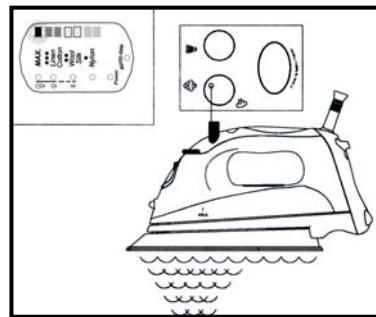

Fig. 4
- Turn the steam button all the way to the right to the X-Tended steam position. (Fig. 4)